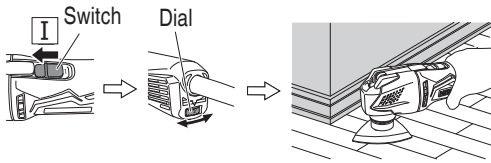

Fig. 7
1. Switch the unit on and use the dial to set the speed of the application tool. (Fig. 7)
2. Lightly place the application tool on the material and move the application tool back and forth at a pace where the movement isn't slowed. (Fig. 7)